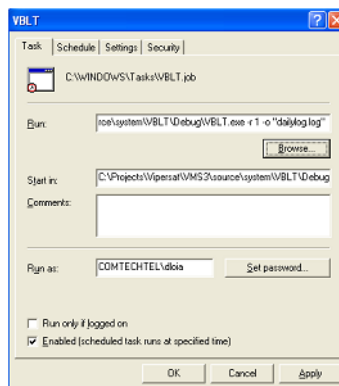

Figure H-4 VLBT task tab
8. The last step is to add the VLBT command options to the task. In the **Run** text box shown in figure H-4, go to the end of the VBLT.exe and add the desired options. The “-r” and “-o” options should be specified as shown in figure H-4.